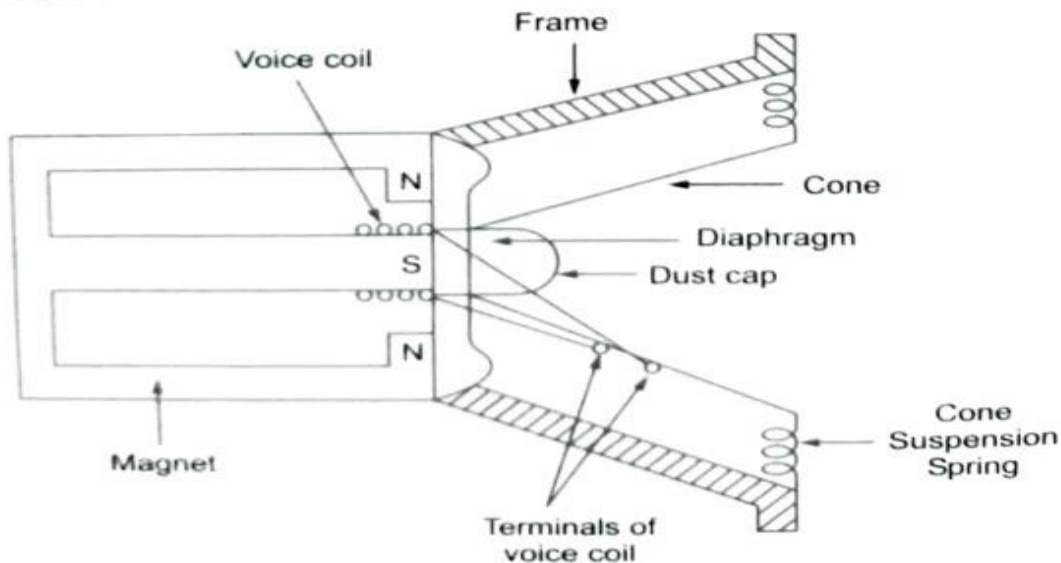

Fig. 6.1: Moving Coil Loudspeaker
- The main parts of this loudspeaker are magnet, voice coil, conical diaphragm (Fig 6.1).